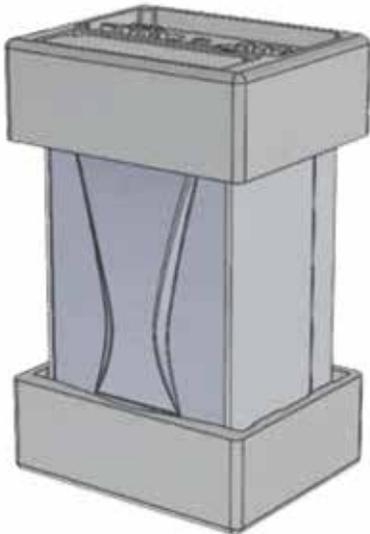

Figure 2a
- The device is delivered within a cardboard box as supported with bottom and top styrofoams with a size of 865 x 470 x 405 (HxWxD) (Figure 2a).